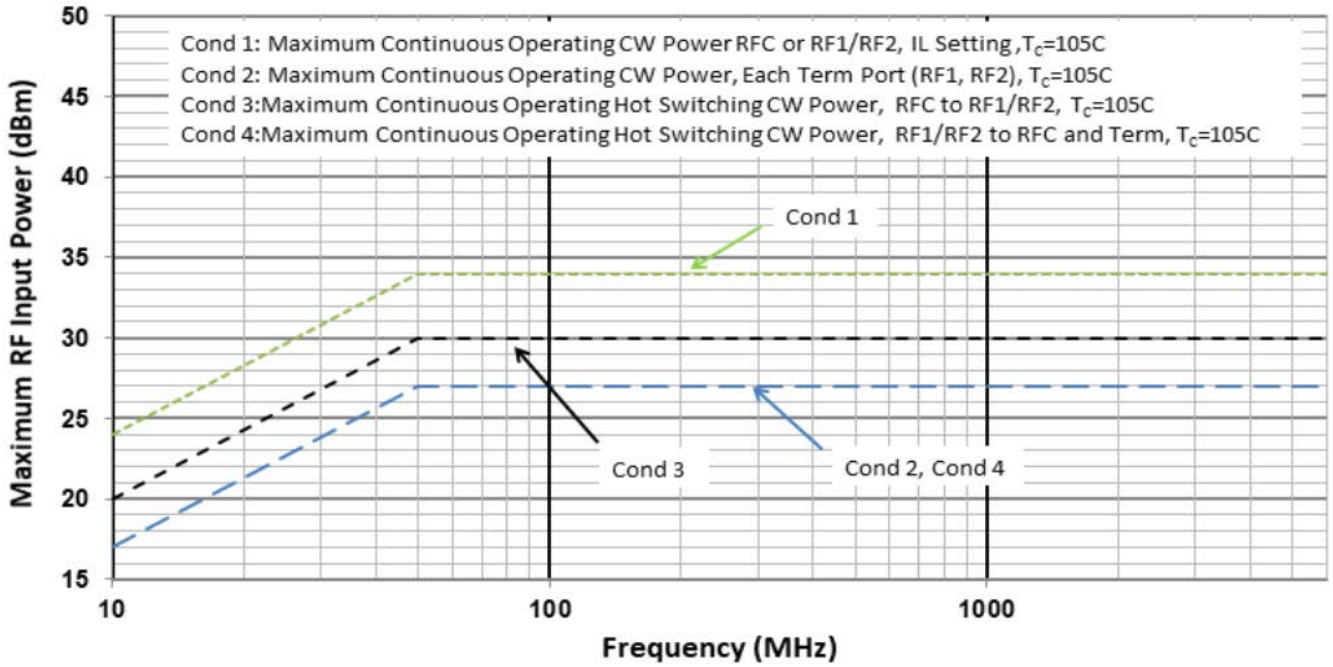

Figure 2. Maximum RF Input Operating Power vs. Frequency
- Levels based on: $V_{DD} = 3.1\text{V to } 5.25\text{V}$, $250\text{MHz} \leq F_{RF} \leq 6000\text{MHz}$, $Z_S = Z_L = 50\Omega$. See Figure 2 for power handling derating vs. RF frequency.